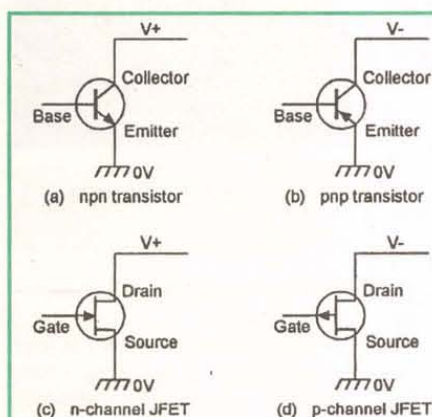

Figure 1. Comparison of transistor and JFET symbols, notations, and supply polarities.
The second family is known as either 'insulated-gate' FETs or Metal Oxide Semiconductor FETs, and these terms are generally abbreviated to IG-FET or MOSFET, respectively. 'N-channel' and 'p-channel' versions of both types of FET are available, just as normal transistors are available in npn and pnp versions. Figure 1 shows the symbols and supply polarities of both types of bipolar transistor, and compares them with both JFET versions.
(1). When a JFET is connected to a supply with the polarity shown in Figure 1 (drain +ve for an n-channel FET, -ve for a p-channel FET), a drain current (I_D) flows and can be controlled via a gate-to-source bias voltage V_{GS} .